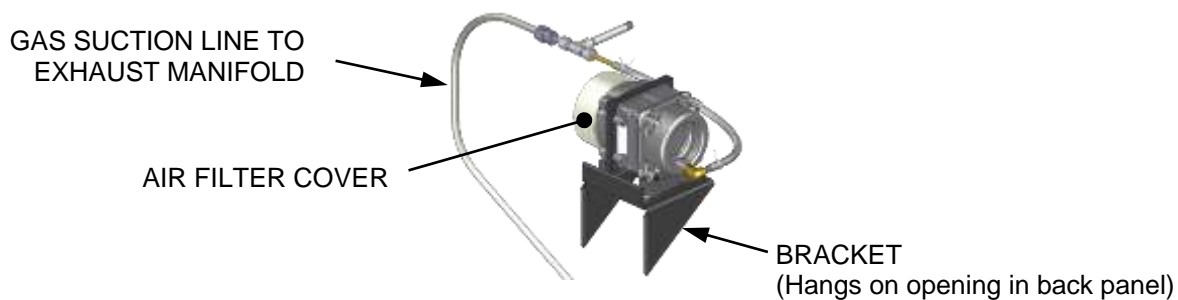

Figure 4-3: Air Eductor Assembly – Shown Removed from Unit
1. Remove the Air Pump's plastic air filter cover and clean or replace the air filter (see Figure 4-3).